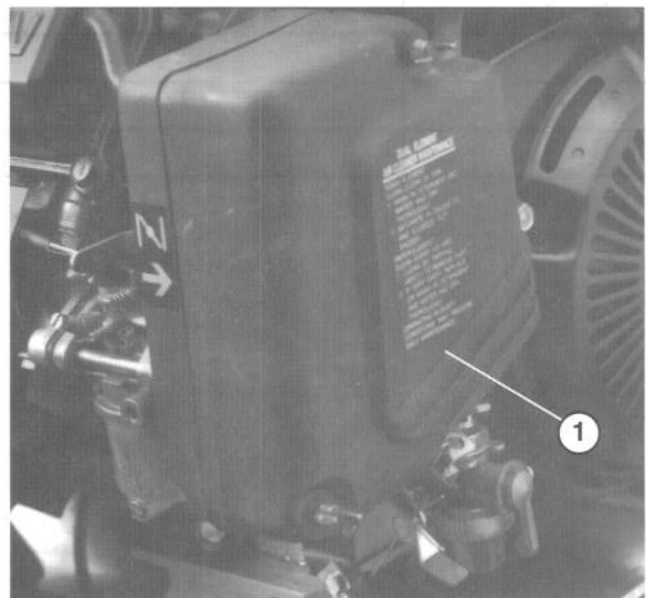

Figure 26
2. Remove wing nuts securing air cleaner cover to air cleaner and remove cover. Clean cover thoroughly (Fig. 26).